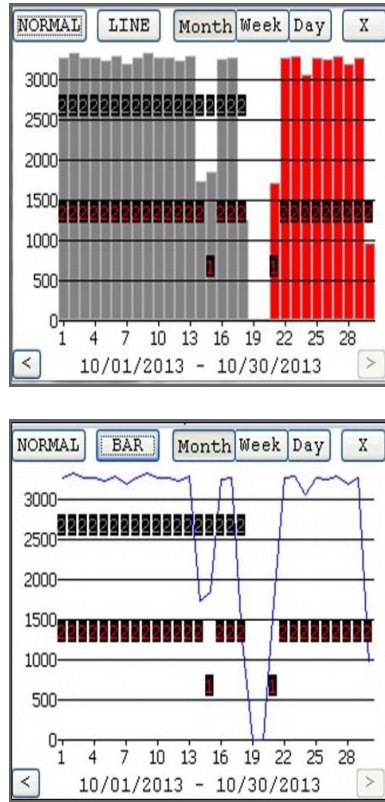

Figure 27 – Example Data Logging Graphs
3. Click **GRAPH** to display the data in a graph. Examples of graphs are shown in Figure 27 on page 22